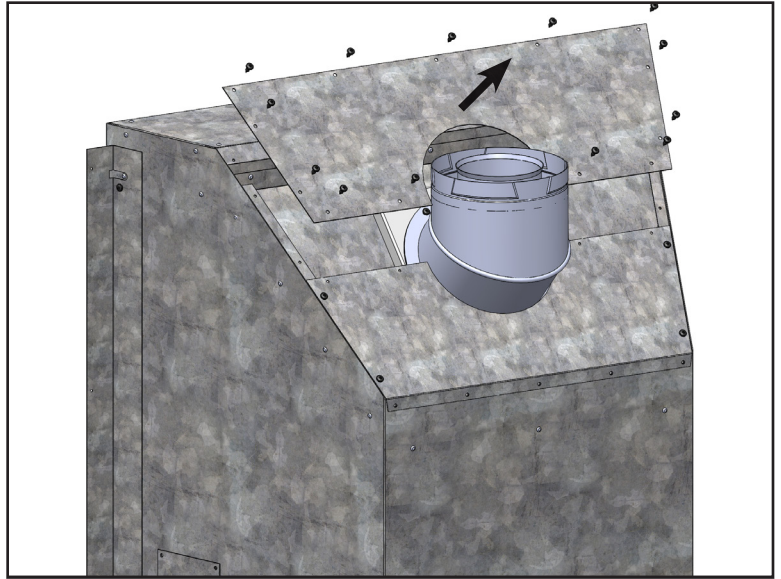

Fig.21
2. Remove upper flue access cover from the appliance and set aside. **(Fig.21)**